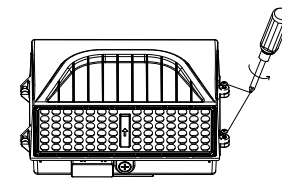

Figure 19
15. Make sure the installation is complete before turning the power back on. (see Fig. 19)